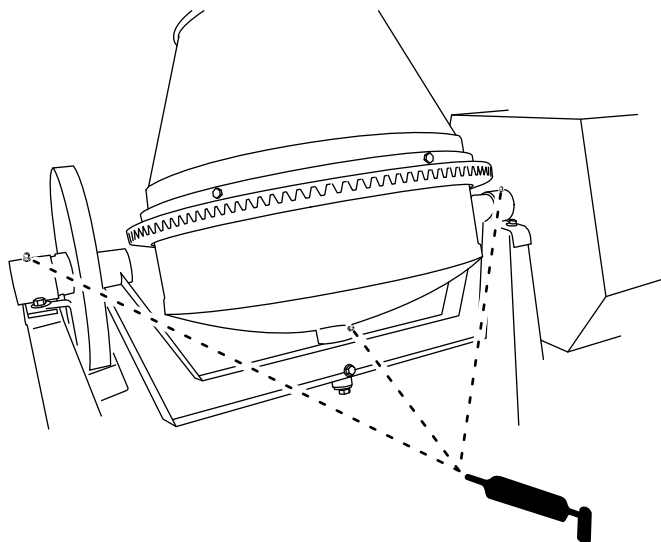

Figure 42
1. Clean around each grease fitting with a rag, and lift the plastic cap off the grease fitting (Figure 42).
2. Use a grease gun to lubricate the grease fittings of both trunnions and the drum spindle with general-purpose lithium grease (Figure 42).